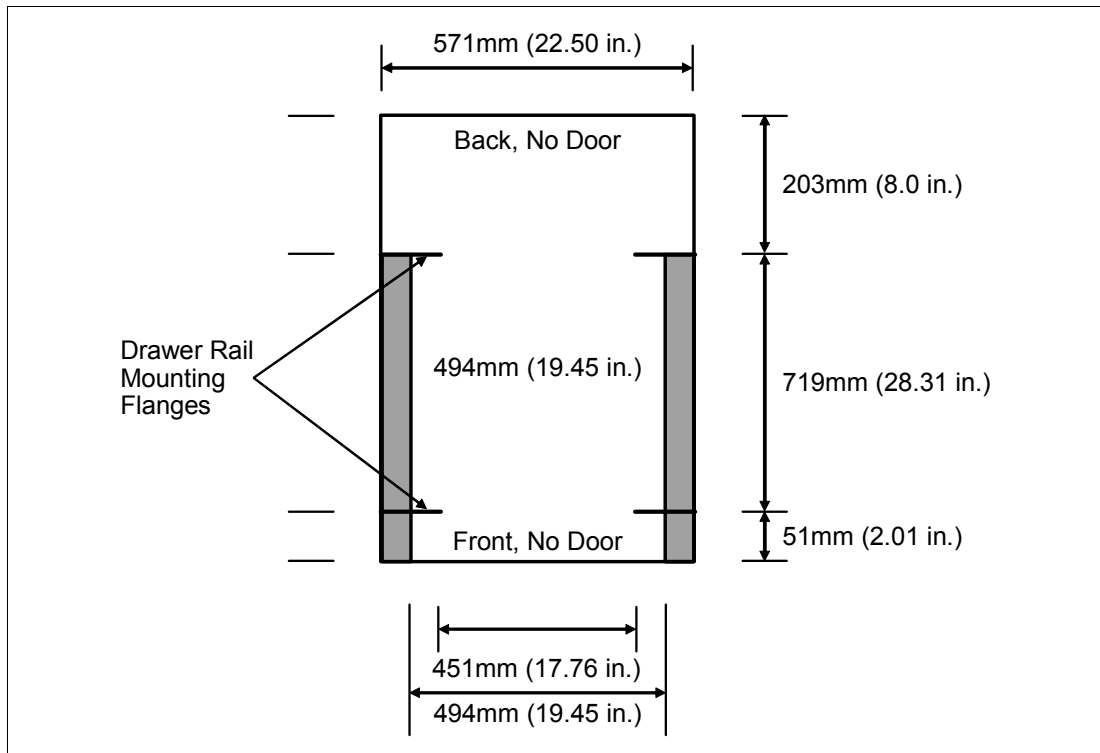

Figure 1-6 Top view of non-IBM rack specification dimensions
- ▶ The front rack opening must be 451 mm wide ± 0.75 mm (17.75 in. ± 0.03 in.), and the rail-mounting holes must be 465 mm ± 0.8 mm (18.3 in. ± 0.03 in.) apart on center (horizontal width between the vertical columns of holes on the two front-mounting flanges and on the two rear-mounting flanges). See Figure 1-6 for a top view showing the specification dimensions.